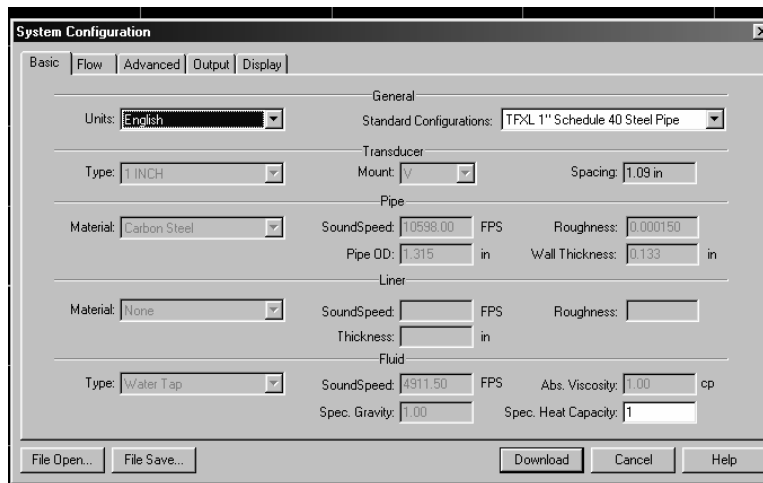

Figure 13
4. Click on the button labeled **Configuration** for updating flow range, liquid, pipe and I/O operating information. The first screen that appears after clicking the **Configuration** button is the **BASIC** tab. See **Figure 13**.
5. **BASIC TAB**—See **Figure 13**